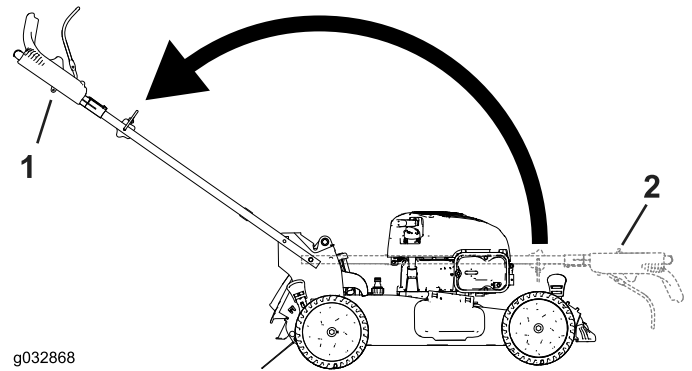

Figure 6
3. Unfold the handle to the operating position by rotating it rearward (Figure 6).